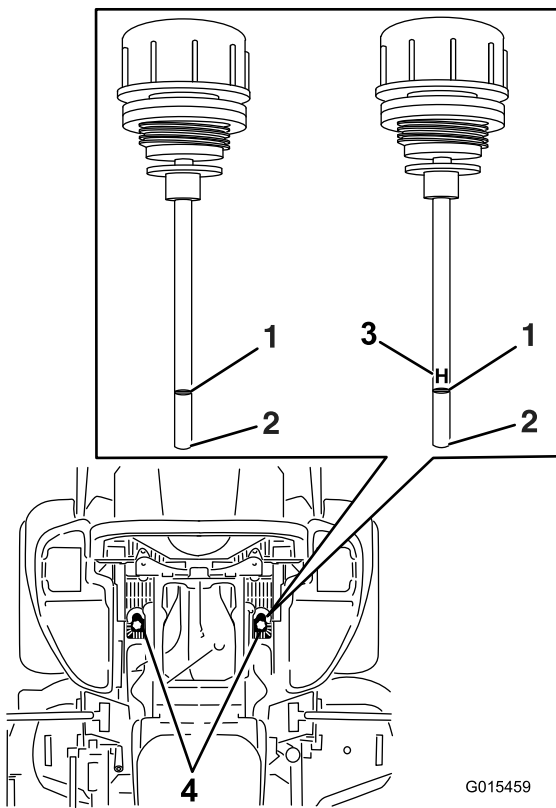

Figure 83
6. Clean the area around the dipsticks of hydraulic system reservoirs (Figure 83).
7. Remove one dipstick from the hydraulic reservoir (Figure 83).
9. Remove the dipstick and look at the end (Figure 83). If the oil level is at the add mark, slowly pour only enough oil into the hydraulic reservoir to raise the level to the full or **H** line.